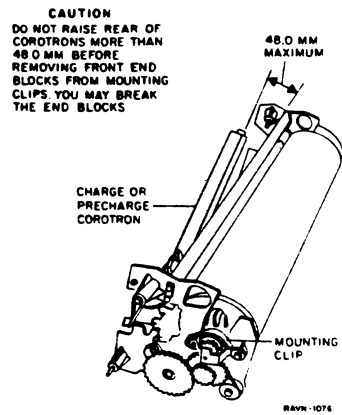

Figure 1. Removing and Replacing the Corotrons
3. PRESS ON END BLOCKS OF COROTRONS WHEN INSTALLING THE COROTRONS INTO DRUM MODULE (FIGURE 1).